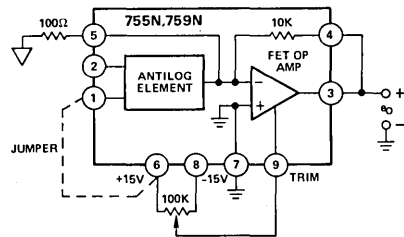

Figure 5. Trimming  $E_{OS}$  in Antilog Mode
**Offset Voltage ( $E_{OS}$ ) Adjustment** — Although offset voltage of the antilog circuit may be balanced by connecting it in the log mode, and using the technique described previously, it may be more advantageous to use the circuit of Figure 5. In this configuration, offset voltage is equal to  $e_{OUT}/100$ . Adjust for the desired null, using the 100k trim pot. After adjusting, turn power off, remove the external 100 $\Omega$  resistor, and the jumper from Pin 1 to +15V. For 755P, 759P use the same procedure but connect Pin 1 to -15V.